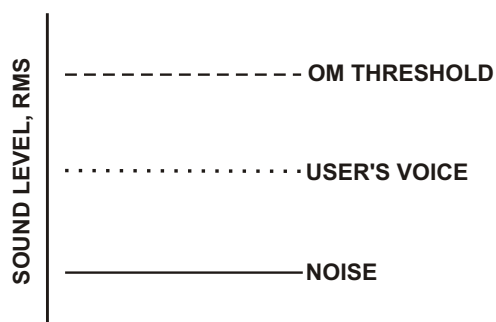
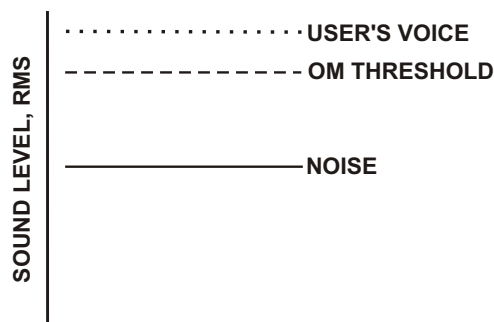

Figure 33
Figure 34
The microphone gain controls on the base station and beltack are set to mid-levels by the factory. In most cases this setting will work fine and only on loud speech will the overmodulation (OM) indicator light. However, in environments where the background noise is loud or the user has a strong/quiet voice, the gain control will need to be adjusted. In Figure 33 the gain is set correctly. The user's root-mean-square (RMS) sound level is well below the OM threshold and only on peaks does his or her voice flash the OM indicator light.
Figure 34 displays the same gain setting as in Figure 33 but brought into a high noise environment. The user's voice now lights the OM indicator all the time he or she speaks due to the higher noise plus the user speaking louder. The result on the system is distortion on louder speech. The microphone gain must be reduced. The same applies to a user with a powerful voice. If someone sets the system mic gain to their voice and user has a much stronger voice, then the gain will need to be reduced, even if the background noise is the same.